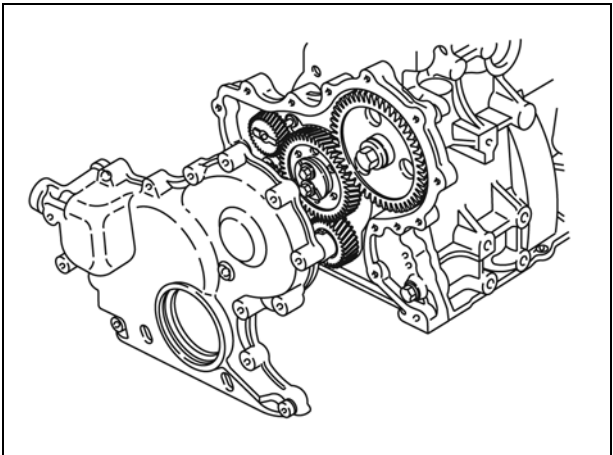

Figure 9
- 10. Remove trigger (Figure 9) and wire. Remove timing gear cover and discard timing gear gasket.